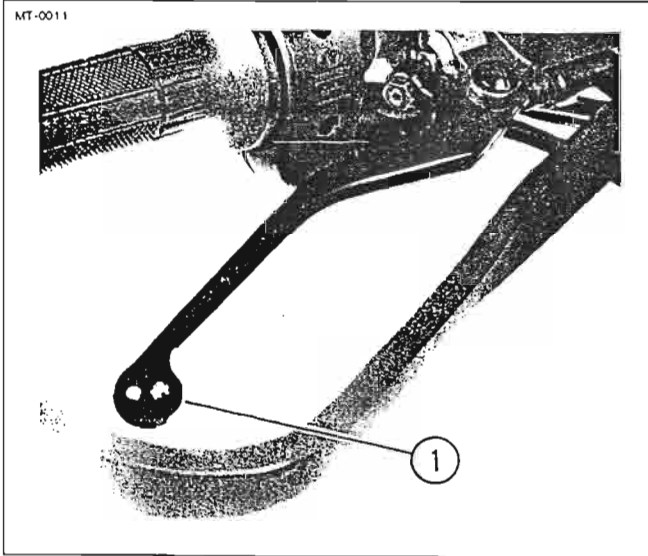

Figure 2-14. Front Brake Control Lever
3. See Figure 2-14. Apply front brake control lever (1) and check that application of brake stops vehicle. Release front brake control lever.